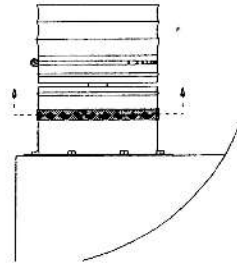

Figure 2
2. Make sure that the swivel seal is pulled up from the hose mounting base to cover the gap between the swivel base and the hose swivel. (See figure 2)